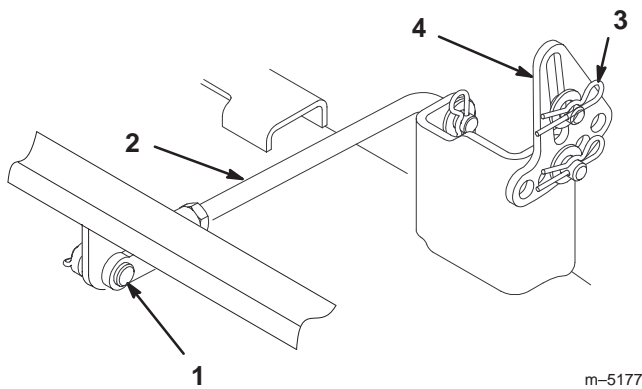

Figure 47
6. Remove the hairpin cotter and clevis pin from the rear trunion rod (Fig. 47) on each side of the mower.
7. Remove the hairpin cotter and washer at the mower leveling brackets (Fig. 47) on each side of the mower. Note which hole the leveling bracket is mounted in for future installation. Slide the brackets off of the mounting pin.
6. Attach the rear trunion rod to the tractor with the clevis pin and hairpin cotter (Fig. 47) on each side of the mower.
7. Slide the leveling brackets onto the mounting pins and secure them with the washers and hairpin cotters (Fig. 47).